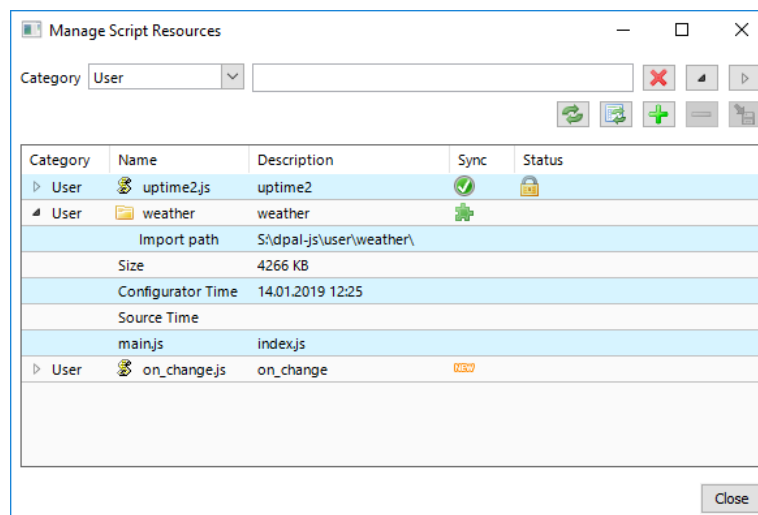

Figure 214: Manage script resources dialog
- **Script folder:** This represents a folder that contains a collection of files which constitutes the script resource. Similar to an npm module a main file has to be appointed. This can be implicit by naming convention (`index.js` or `foldername.js`) or explicit by looking into the `package.json`. The script management dialog reveals the `main.js` file in the expanded details as shown in Figure 214.